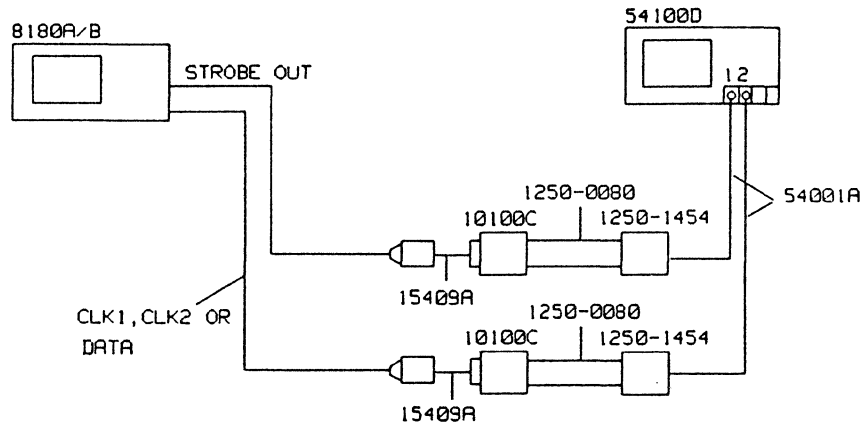

Figure 6-2. Test Setup for the Clock and Data Skew Test
6. Connect the equipment as shown in Figure 6-2. Switch outputs ON and start the generator